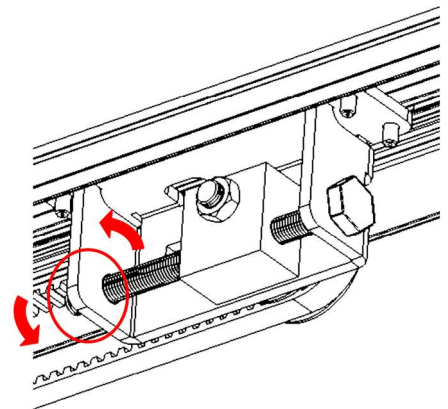

Figure 37: Tighten the locking nut.
7. Tighten the locking nut (Figure 37).